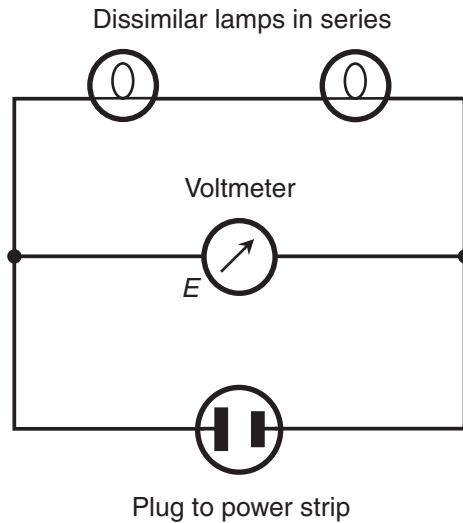

Figure AC3-2 *Measurement of voltage E across the combination of two dissimilar bulbs in series.*
sure they're shining. Record the meter reading (Fig. AC3-2). This is the voltage E across the series combination of bulbs. I got $E = 120.2$ V. Theory predicted that I ought to have seen
- The voltage E across the combination of bulbs (Fig. AC3-2) was 120.0 V.